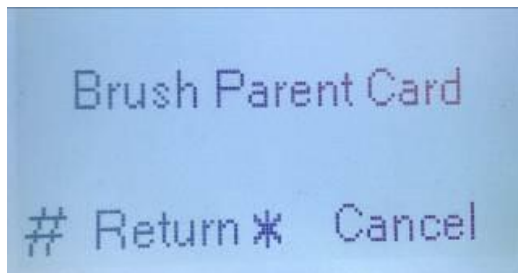

Figure 4-11
- d) Put parent card on the swipe card zone and then click “#” to confirm. See Figure 4-11.